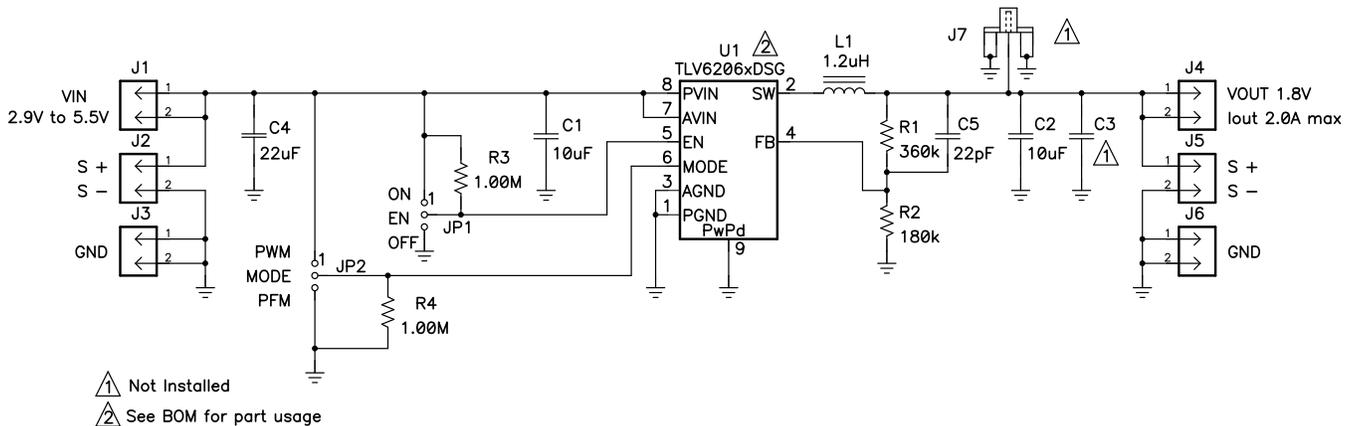

Figure 1. TLV62065EVM Schematic
Figure 1 shows the TLV62065EVM schematic.
**NOTE:** Figure 1 is provided for reference only. See the bill of materials (Table 1) for specific component values.